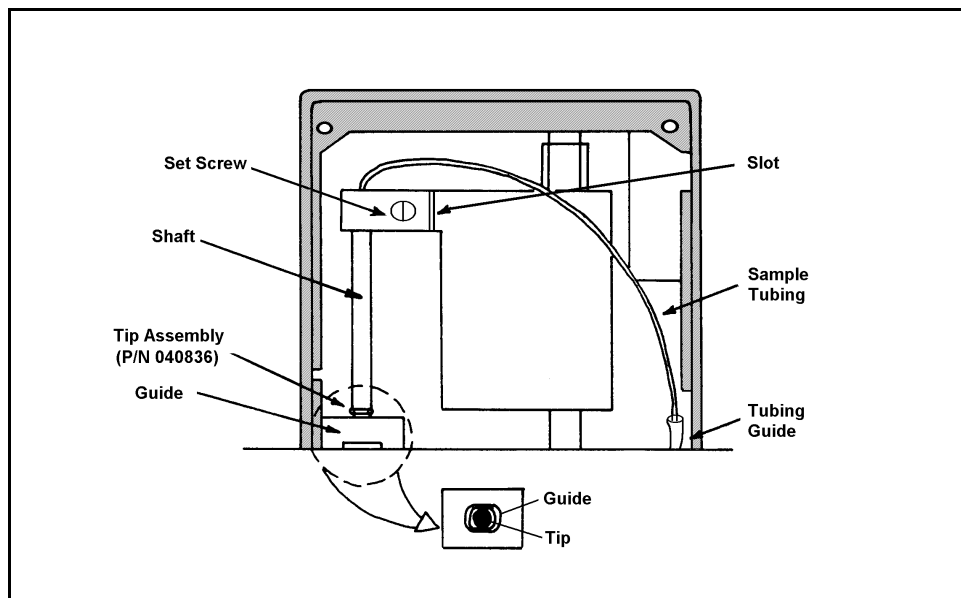

Figure 5-2. Replacing the Sampling Tip Assembly
7. Remove the two screws from the plastic cover on the right side of the sample head cover (as seen from the front of the sampler) and remove the cover. Locate the set screw in the sampling head mechanism (see Figure 5-2) and loosen it until you can slide the shaft down and to the right, out of the mechanism.
11. Continue threading the free end of the tubing through the sampling head mechanism and slide the sampling shaft into place. Align the flat sides of the sampling tip so that they fit through the oval hole in the guide (see Figure 5-2 inset). Make sure that the shaft is pushed as far as it will go up into the sampling head mechanism and then tighten the set screw firmly.